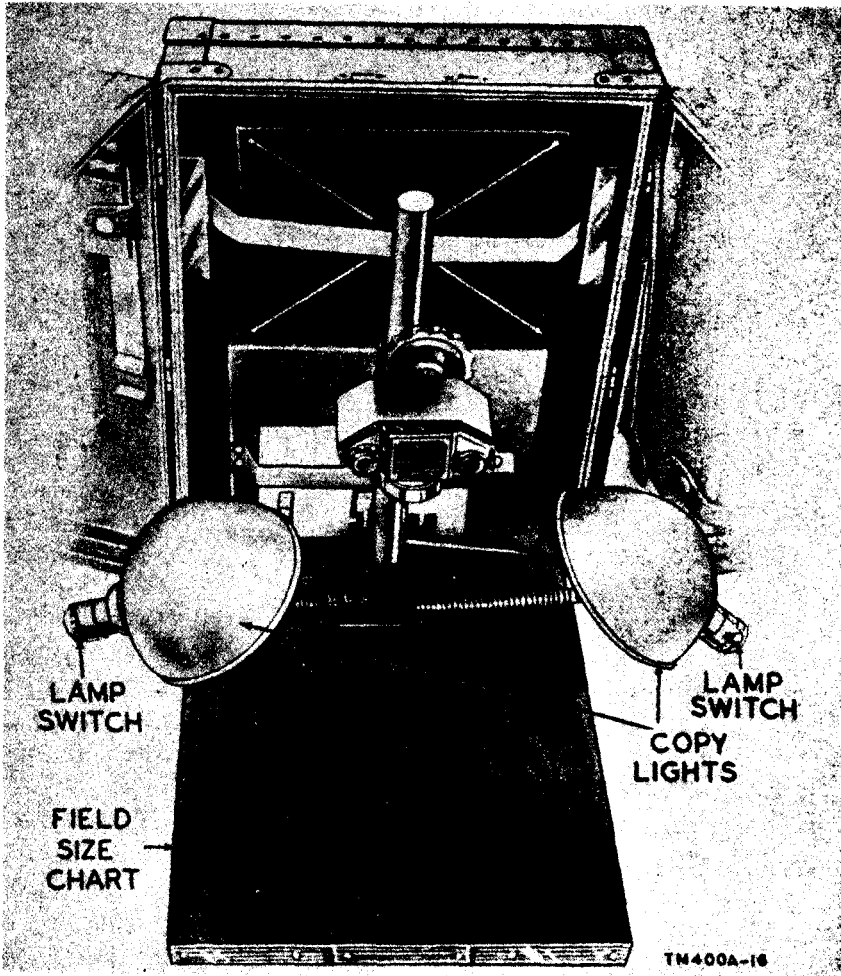

Figure 16. Camera PH-324-A. and copy lights set for copying.
- (1) Focusing and composing can be accomplished most efficiently if the original material is laid on the baseboard and correctly centered within the proper area size of the four camera settings shown on the printer baseboard (fig. 16), with the camera pointing down toward it. A wider range of subject distances and camera settings are given in table I. This table may be used for copying with portrait lenses plus 1 and plus 2. The subject distances apply only to Camera PH-324-A and must be measured accurately between the subject and the supplementary lens. Exposures should always be made at a small aperture when a supplementary lens is used.
e. *Illumination* (fig. 16)
- (1) Proper light distribution and control of reflections are important when illuminating the original material for copying. As a light source, the photoenlarger lamps furnished with the equipment are suitable for black and white copying. Light distribution is much more critical in copying than in other photographic work. When setting up for copying, place the lamps so that all the corners of the original material are equally lighted.
- (2) Screw the two photoenlarger lamps into the copy light sockets of the flexible arms mounted on the baseboard.